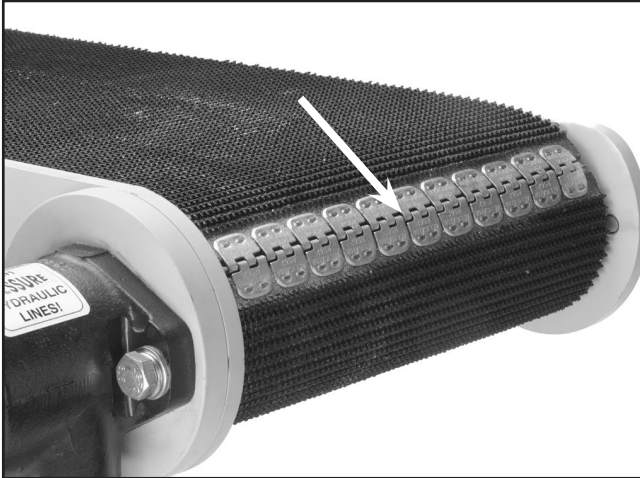

Figure 64. Conveyor belt seam.
1. Start the conveyor belt and stop it when the conveyor belt seam (see **Figure 64**) is accessible.